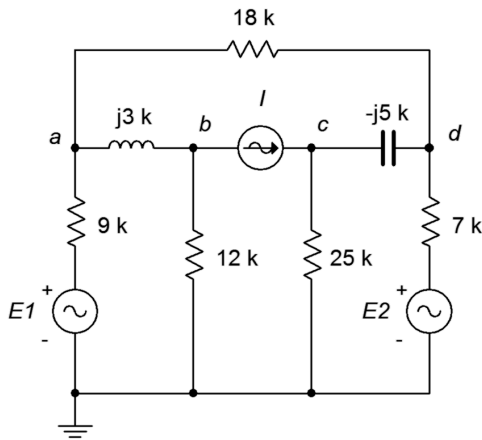

Figure 6.34
69. Given the circuit in Figure 6.34, determine v_{ad} . $E1 = 22\angle 0^\circ$, $E2 = -10\angle 0^\circ$, $I = 2E-3\angle 0^\circ$.